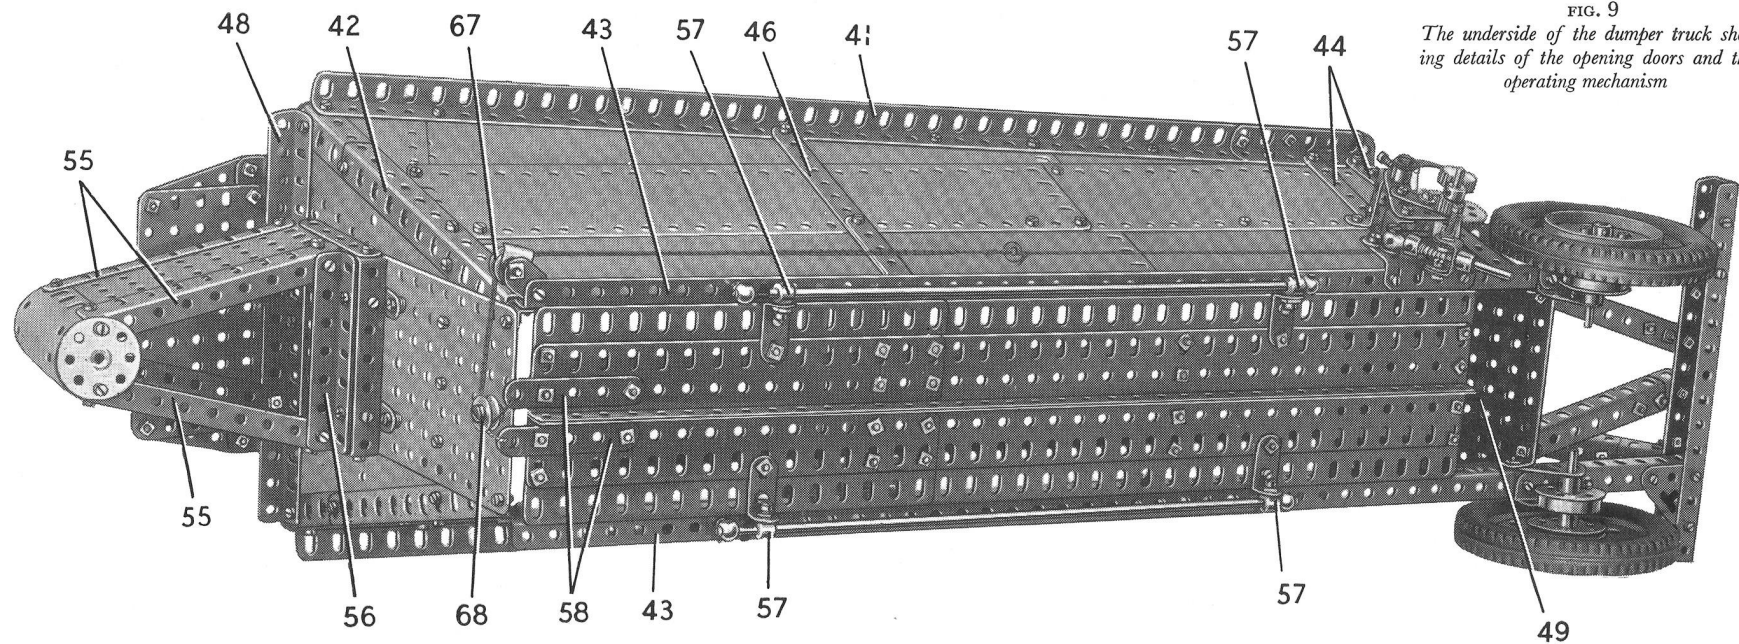
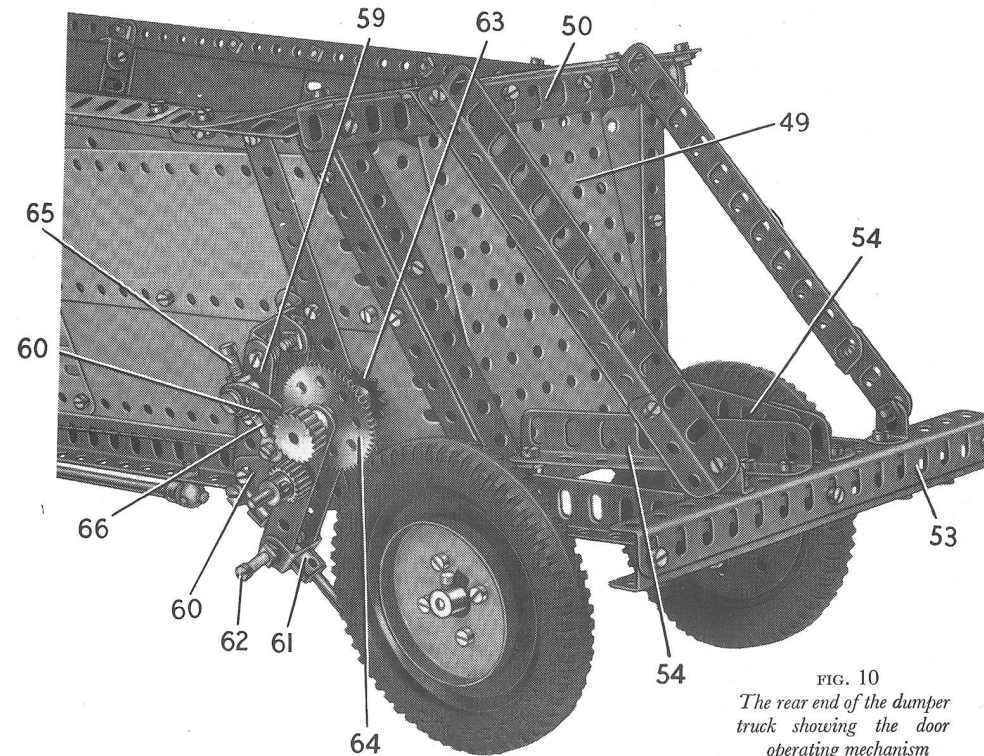

FIG. 9
FIG. 10
The rear end of the body consists of a  $5\frac{1}{2}" \times 3\frac{1}{2}"$  Flat Plate (49) (Fig. 9)
A Girder Bracket is bolted to one of the Girders (43) and to it is fixed a  $\frac{1}{2}"$  Reversed Angle Bracket to which are bolted a  $2\frac{1}{2}"$  Strip (59) (Fig. 10) and two  $1\frac{1}{2}"$  Strips (60). A second  $2\frac{1}{2}"$  Strip is fixed to the Girder Bracket and is connected to Strip (59) by an Angle Bracket and a  $1"$  Reversed Angle Bracket. The  $1"$  Reversed Angle Bracket is bolted to the side of the dumper body (Fig. 9). Two  $3"$  Strips are connected at their lower ends by a large Fork Piece (61), which is attached to one Strip by a *lock-nutted*  $\frac{7}{32}"$  bolt and to the other Strip by a *lock-nutted*  $\frac{3}{4}"$  Bolt (62). The  $3"$  Strips pivot on a  $2"$  Rod, which is held in the Strips (60) and the Girder Bracket by a  $\frac{1}{2}"$  fixed Pulley and a  $\frac{1}{2}"$  Pinion. A  $1"$  Rod is mounted freely in the top holes of the  $3"$  Strips and is fitted with a  $\frac{3}{4}"$  Sprocket (63), a 57-tooth Gear (64) and a Ratchet Wheel. A Pawl, which is fitted with a  $\frac{1}{2}"$  Bolt (65) to form a release handle, is mounted on a Pivot Bolt held in the Strip (59). The Pawl engages the teeth of the Ratchet and is held against them by a short piece of Spring Cord (66).
One end of a length of Cord is tied to the boss of the Sprocket (63) and its other end is tied to a Washer. Two separate lengths of Cord are also fastened to the Washer, and each of these is led over one of two  $\frac{1}{2}$ " loose Pulleys (67) (Fig. 9), which are mounted on a  $\frac{3}{4}$ " Bolt held in a Fishplate by two nuts. Both Cords are then passed over a  $\frac{1}{2}$ " loose Pulley (68), and each is tied to one of the Strips (58) of the doors. The Fishplate that supports the Pulleys (67) is bolted to one of the Girders (43) and an Angle Bracket on the  $\frac{3}{4}$ " Bolt serves to keep the Cords on the Pulleys.